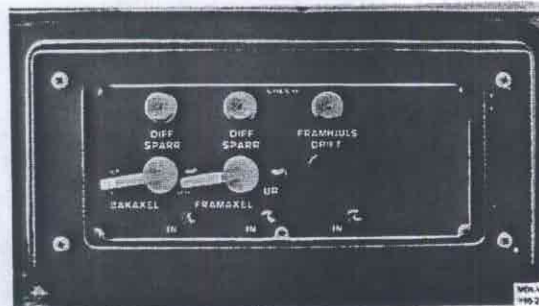

Fig. 43-20. Switch
- C. Panel switch see Fig. 43-20. Pushing in this switch breaks the contact 49-15. This cuts out the current through the solenoid valve and front wheel drive is engaged. At the same time switch 49a-R closes and the control light goes on.